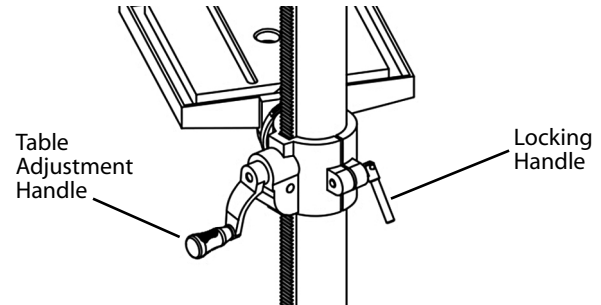

Figure 16 - Height adjustment.
Refer to Figures 16 through 24.
1. Height adjustment (Figure 16).
3. Swing 360° (Figures 16 and 19).